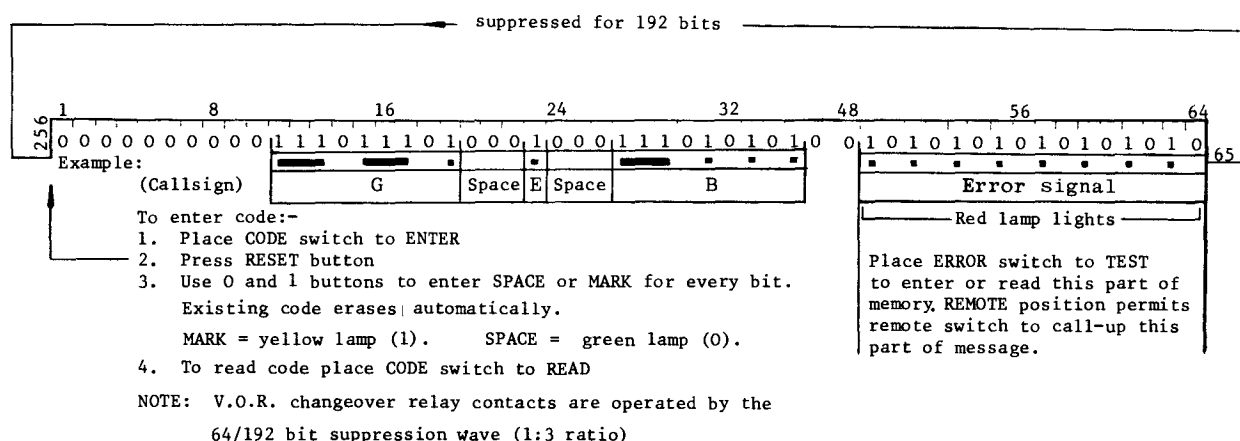

Fig.9. Setting up the code
19. Instructions for setting up identification code on the Electronic Keyer are given on its facia plate and in figure 9. In principle, the operation is not different from that described for the superseded mechanical keyer in paragraph 2-5J(3) step 5 onwards in the main publication. It is advisable to precede the code by at least three spaces (step 5); ten are shown in figure 9 with twelve subsequently before the start of the ERROR code because the code shown is a short one.